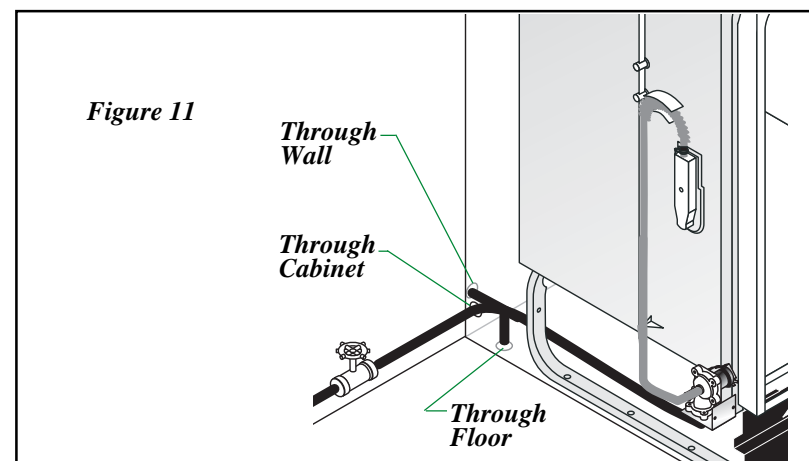

Figure 11
2. Route water line to water inlet valve as shown in **Figure 11**.
5. If water inlet valve clogs, make sure water supply is off. Remove four (4) screws at inlet end of valve and clean filter screen.